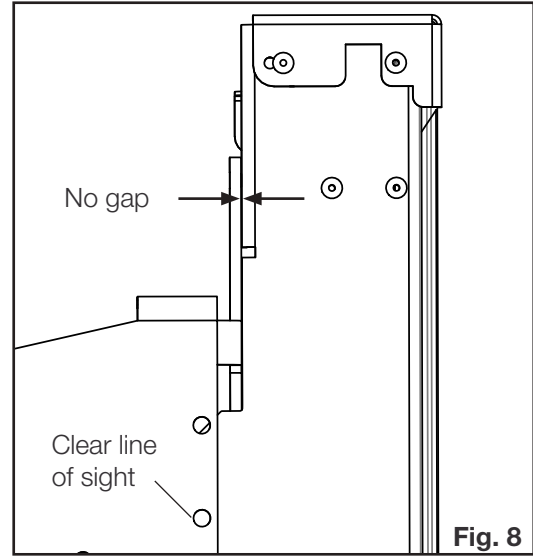

Fig. 8
- The GGA-1 mount bracket holes should be lined up with the screw holes of the GGA-1 slider brackets to ensure a clear line of sight (**Fig. 8**). It is typically necessary to raise the GGA-1 on both sides using the vertical adjustment screws. Raising the GGA-1 approximately 1/8" typically provides the optimum preliminary fit (**Fig. 9**). Repeat on other end of GGA-1.